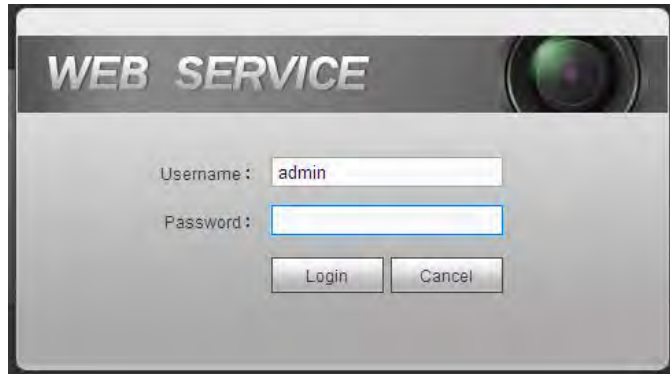

Figure 2-1
- Step 2 Device pops up Install plug-in interface. Please click OK and follow the prompts to install the plug-in. If you can't download the plug-in file, please modify your Internet Explorer security setup. After installation, the interface is shown as below. See Figure 2-1.